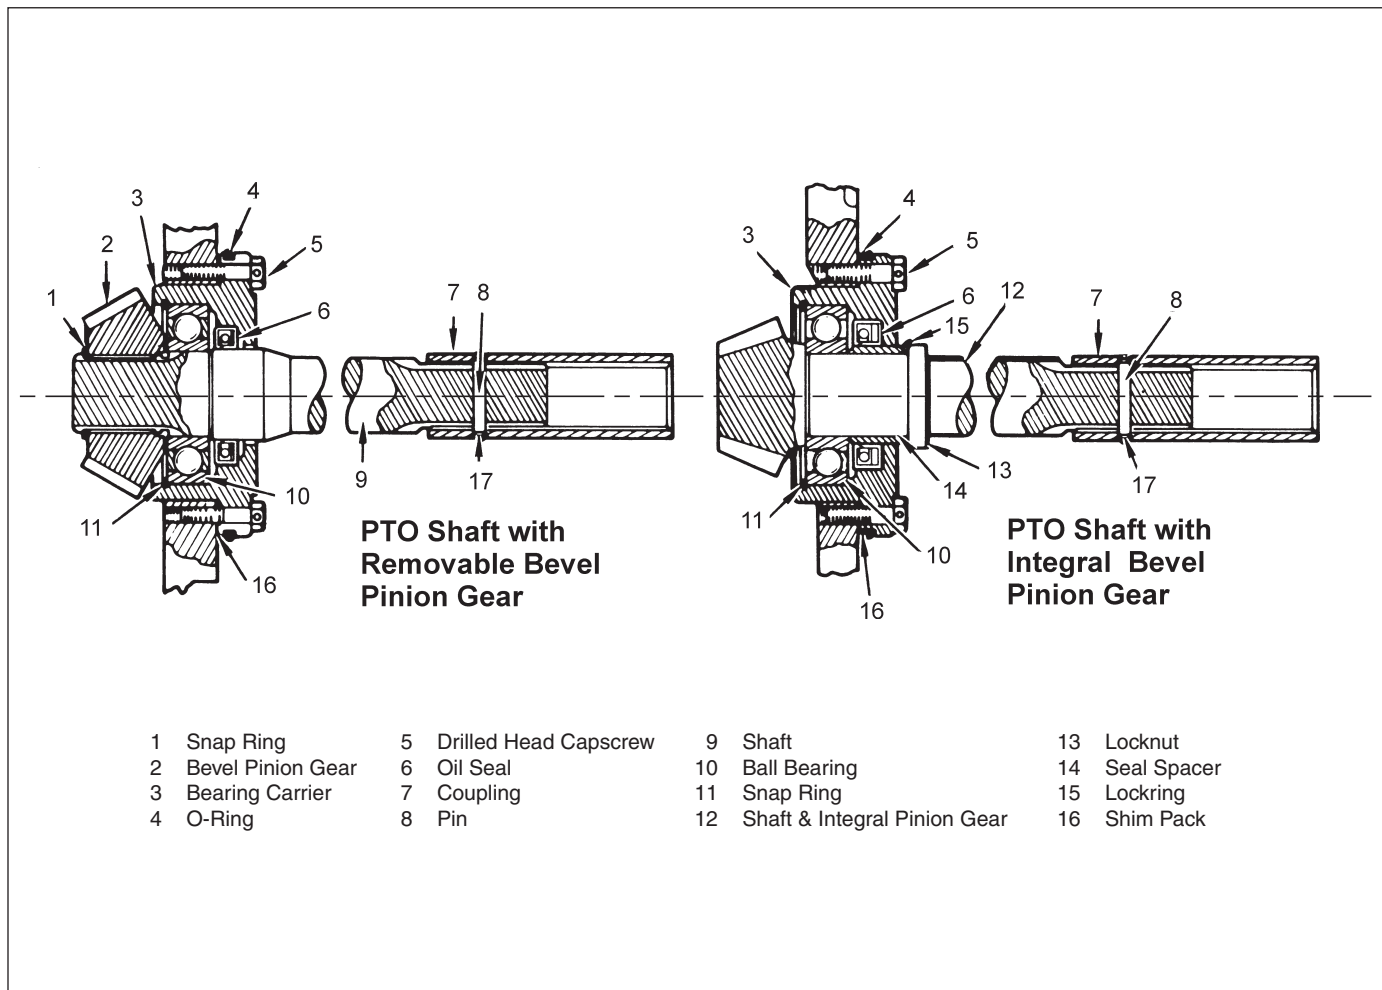

Figure 4-3 PTO Shafts - Last Used on W6FP-3699, W6FX-3699 & AW6F-1000
Please refer to Fig. 4-3 through Fig. 4-6. Before removing the PTO shaft assembly, the winch must be removed from the tractor as explained above in **Winch Removal**.
3. Disassemble and inspect PTO shaft (refer to Fig. 4-3 through Fig. 4-6).